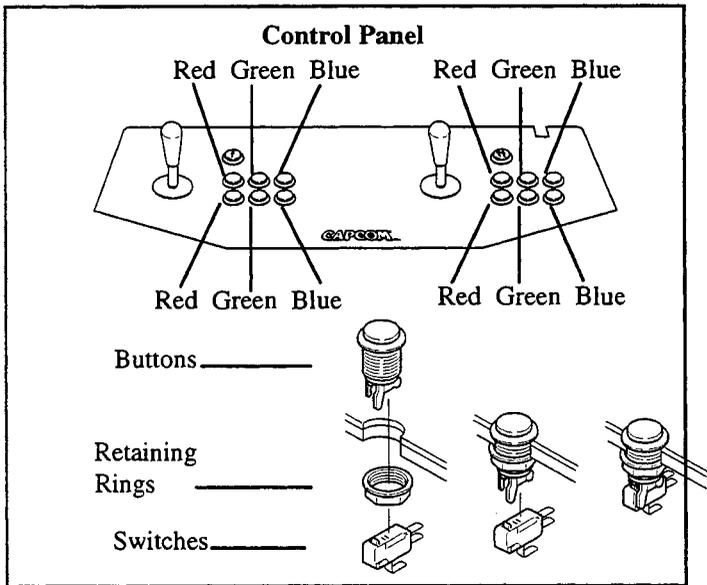

FIGURE 2
15. Install all buttons and retaining rings on the control panel as shown in Figure 2. Install two RED buttons to the immediate right of each joystick, install two GREEN buttons to the right of the red ones, and install two BLUE buttons to the right of the green ones.
17. Install the switches on the buttons as shown in Figure 2. Orient the switches so that when a button is pressed, the red contact on the switch is depressed.